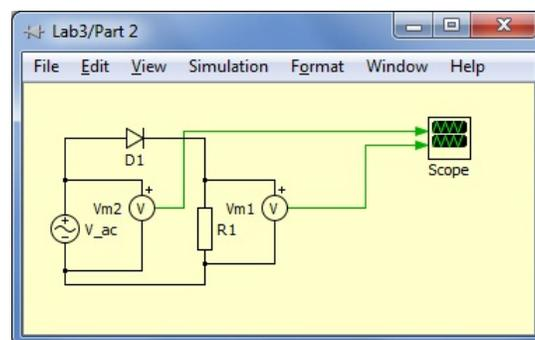
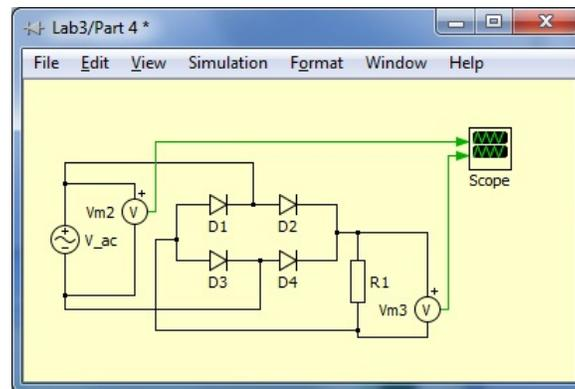

Figure 7: PLECS Circuit 2
Figure 11: PLECS Circuit 4
11. Create the circuit shown in figure 11 in a new PLECS block. The circuit for part 4 is a full-wave rectifier. Each of the diodes will need to have a Forward voltage of 0.7V and an On-resistance of 0.1Ω . After building the full-wave rectifier, add a 1Ω load resistor across the output of the full-wave rectifier. Place a volt meter across the AC source and the load resistor. Simulate the model and record the simulated waveform.
- (2) Compare the output of figure 7 and figure 11. What were the advantages and disadvantages of each circuit?
- (3) When building a rectifier circuit, what are the two primary forces that compete when designing the rectifier?
Appendix 1: Sketch the output of Figure 7 if the diode were reversed
Appendix 2: Sketch the output of Figure 7 if a capacitor were add in parallel with the resistor